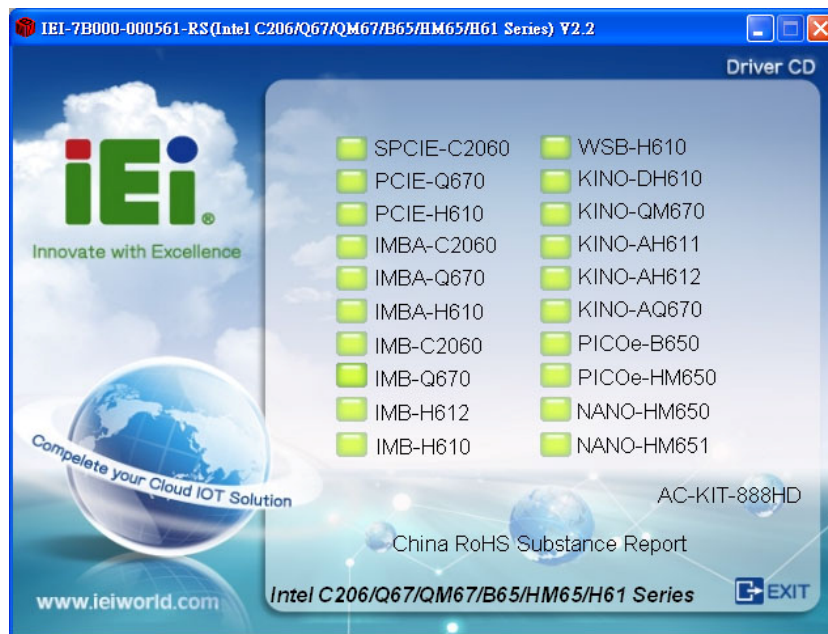

Figure 6-1: Introduction Screen
**Step 2:** The driver main menu appears (**Figure 6-1**).